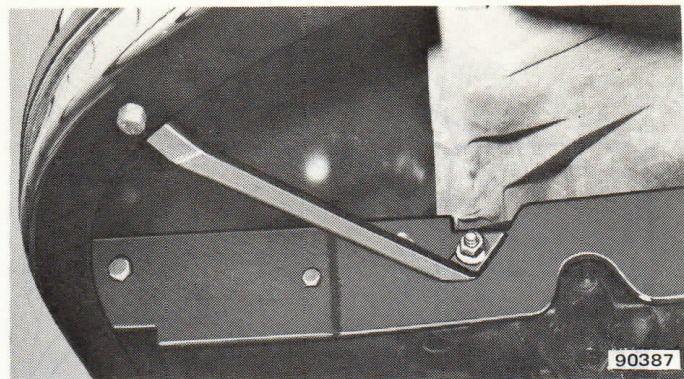

Fig. 5-32 Bumper Brace Installation
(17) Attach splash plates to splash plate braces using 1/4 x 1 slotted-head bolts. Attach bumper and bumper spacer to front support using 1/4 x 1 slotted-head bolts. Tighten 1/4 x 1 bolts to 5 foot-pounds (7 N•m) torque and splash plate-to-frame bracket bolts to 28 foot-pounds (38 N•m) torque.
(18) Install bumper braces (fig. 5-32). Attach braces to bumper lower flange using 3/8 x 1 bolts, lockwashers, flat washers and nuts. Tighten bolts to 18 foot-pounds (24 N•m) torque. Attach braces to rear support and frame brackets using 7/16 x 1-3/4 bolts, flat washers, lockwashers and nuts. Tighten bolts to 28 foot-pounds (38 N•m) torque.